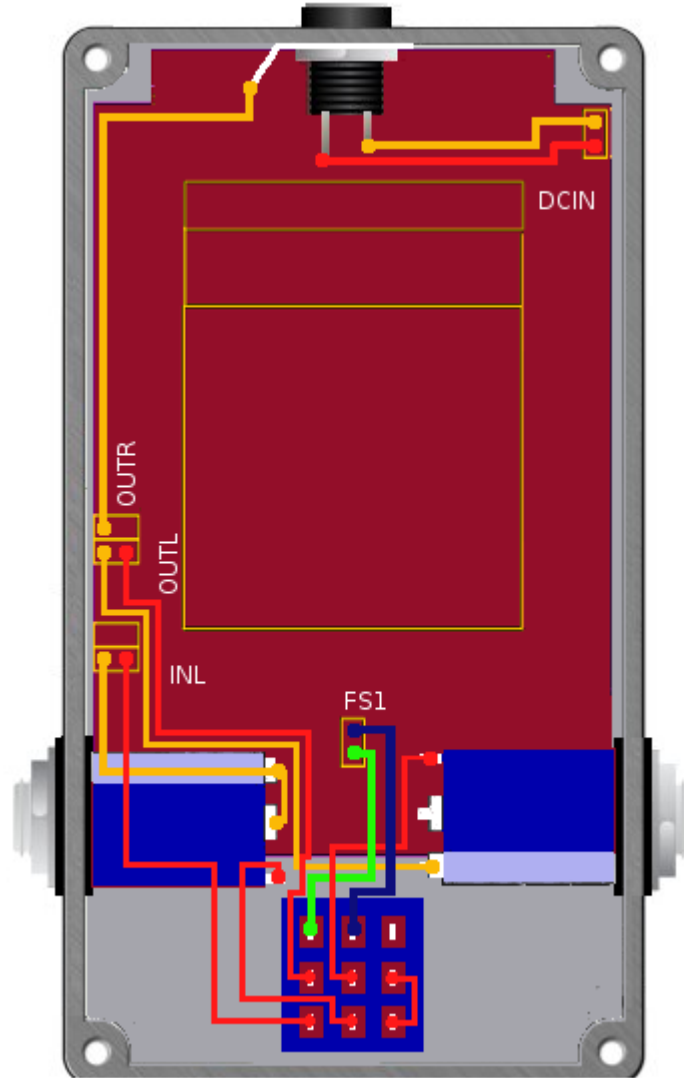

Figure 5. DT-FOG Pedal Off-Board Wiring Layout
- D) Off-board wiring layout is shown in the Figure 5